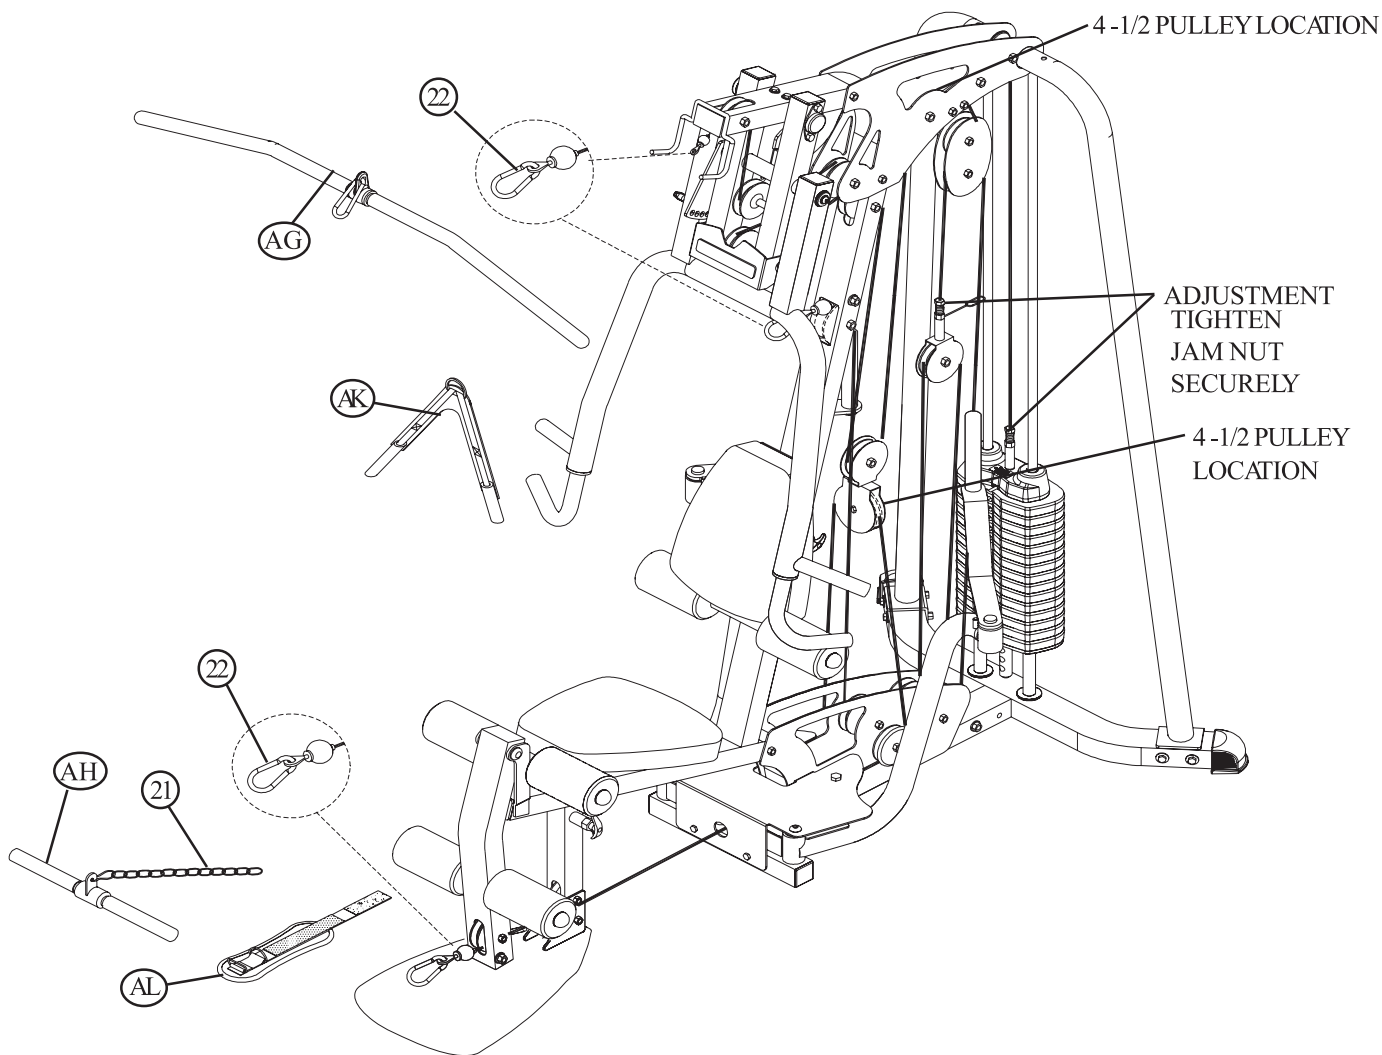

FIGURE 23
- If upon completion of assembly, the HEAD PLATE (AF) does not sit on top of the first WEIGHT PLATE, push the HEAD PLATE (AF) down, insert the WEIGHT SELECTOR PIN and perform several repetitions at the press station. This will relax the cable system and prevent the HEAD PLATE (AF) from lifting up. See FIGURE 23.
- If after completing the previous step, the HEAD PLATE (AF) still does not sit on top of the first WEIGHT PLATE or if there is excess slack in the cable system, adjust the threaded end of the LAT CABLE (AM) and ADJUSTABLE GLIDE accordingly and retighten the jam nuts. See FIGURE 23.
- For maximum performance, the HEAD PLATE (AF) should just barely sit on the top WEIGHT PLATE.
- Attach the LAT BAR (AG) to the ball end of LAT CABLE (AM) using one SNAP LINK (22) as shown in FIGURE 23.
- Attach the ANKLE STRAP (AL) to the 12 LINK CHAIN (21) using one SNAP LINK (22) as shown in FIGURE 23.
- Attach the AB STRAP (AK) to the ball end of LOW CABLE (AN) using one SNAP LINK (22) as shown in FIGURE 23.